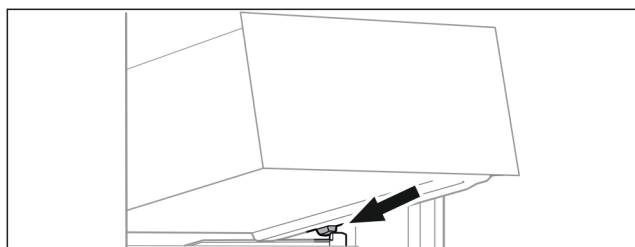

Fig. 62
- ▶ Place drawer at an angle behind the stoppers on the moulded rib. (see Fig. 62)